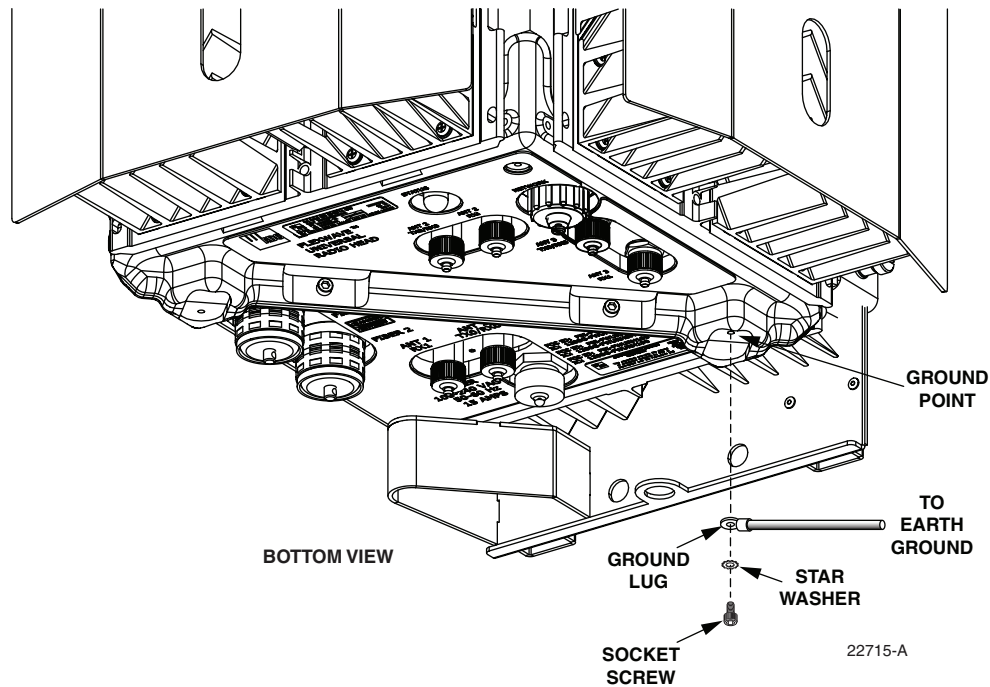

Figure 9. Connecting Grounding Cable to Unit
2. Locate the grounding point provided on the underside of the unit as shown in Figure 9.